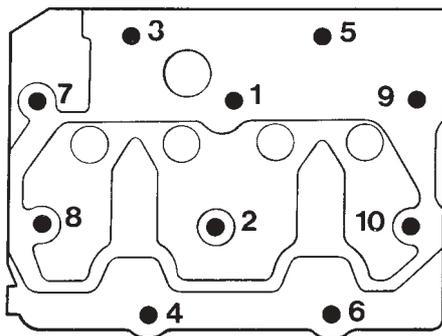

Fig. 30. Tightening diagram, MD2010
5. Tighten the cylinder head screws in three stages as per the following. See tightening diagrams Fig. 30–31.